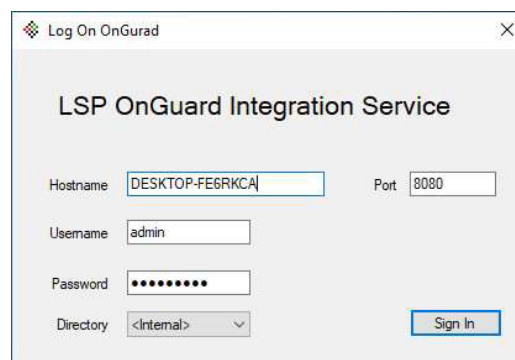

Figure 11
3. Once a successful MSSQL connection is made, the OnGuard login window will appear. See figure 11.